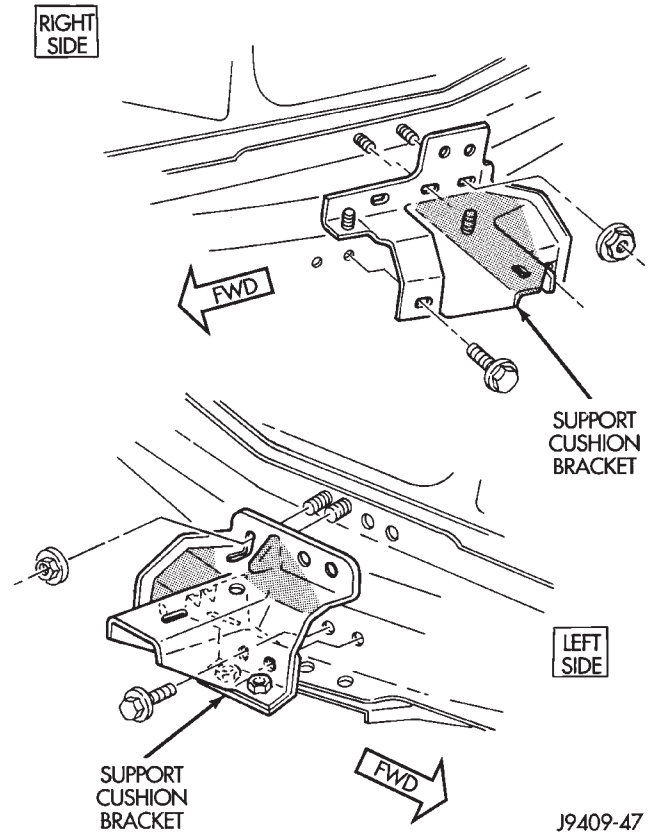

Fig. 8 Support Cushion Bracket—XJ Vehicles
(2) ON XJ VEHICLES, if the support cushion bracket was removed, position the bracket onto the lower front sill (Fig. 8). Install support cushion bracket bolts and nuts. Tighten the bolts to 54 N·m (40 ft. lbs.) torque. Tighten the nuts to 41 N·m (30 ft. lbs.) torque.